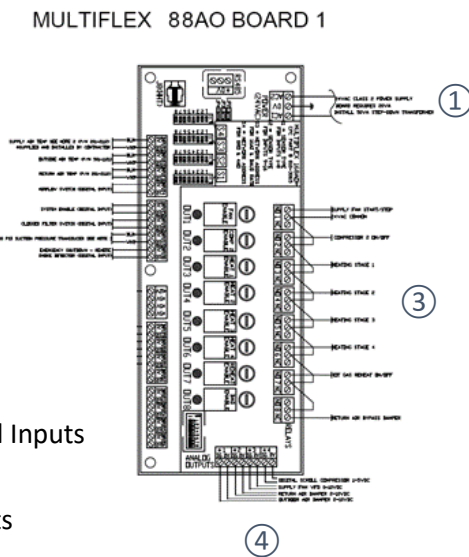
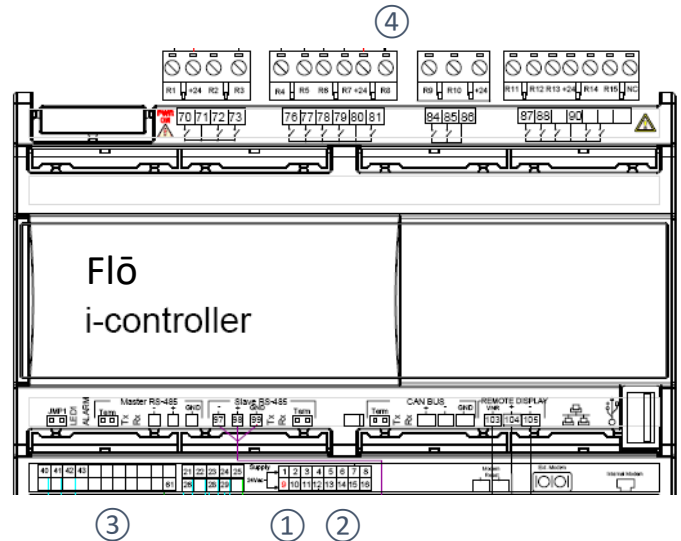

Figure 5. Emerson Multi-Flex 88AO board
Figure 7. Flō i-Controller
The MF88AO board has four analog outputs. Each output will have a white signal wire connected to SG point and black common wire connected to the 0V point. *See Figure 5.* I-Controller point 21 – 30 are the analog outputs for devices requiring an analog 0-10V run signal. *See Figure 7.*
MF88AO has eight relay outputs. *See Figure 5.* Each output terminal has a normally open (NO) signal and a +24VAC common (C) wire connection.
After the +24VAC common connections are terminated, using Table 5, transfer each control signal point to the corresponding i-Controller output point located on pins 70 - 93. *See Figure 7.* Transfer one signal wire at a time from the old controller to the new point location on the i-Controller.